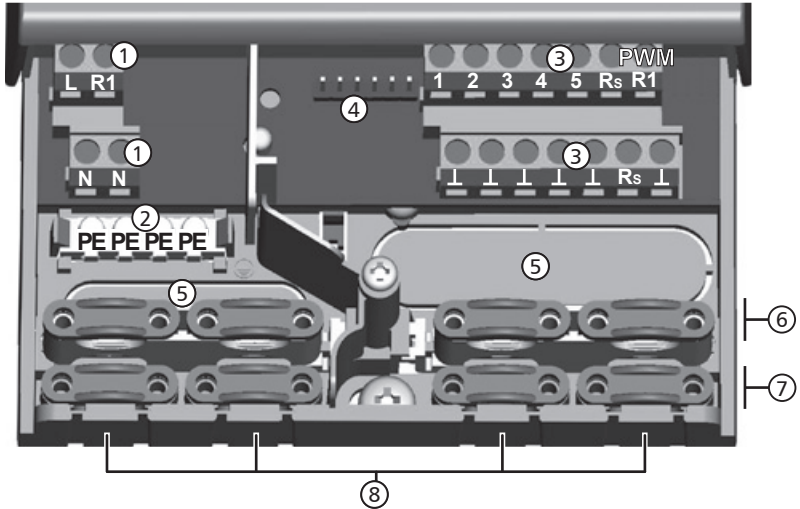

Fig. 3: Terminal clamps in the lower part of the controller (terminal cover removed)
1. Break out the cable openings ⑤ (Fig. 3) using a suitable tool.
1. Cut the *required* cable openings ⑧ (Fig. 3) at the left and right using a suitable knife and break them out.